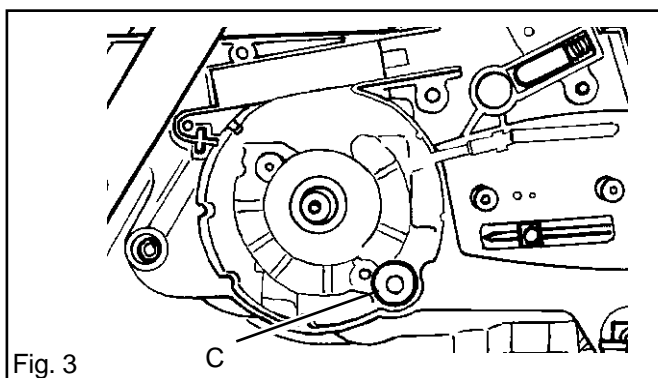

Fig. 3
6. Use pointed pliers to pull free the suction pipe (C) and sieve. See fig. 3.
1. Push the suction pipe (C) into the hole in the crankcase. See fig. 3.